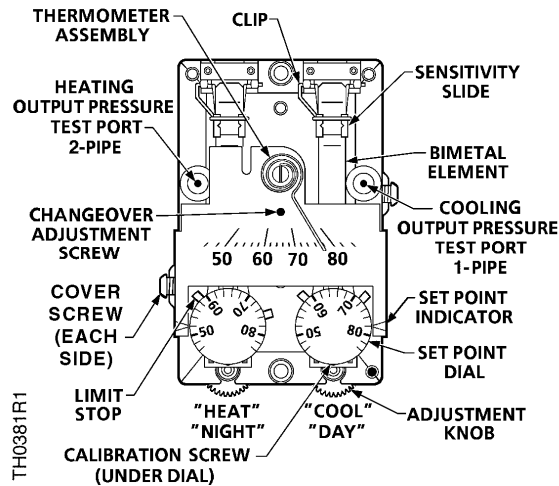

Figure 6. TH 193 HC Thermostat Details.
2. Place a screwdriver in the center of the thermometer assembly (Figure 6). Carefully rotate the thermometer assembly until the pointer tip indicates the correct room temperature.